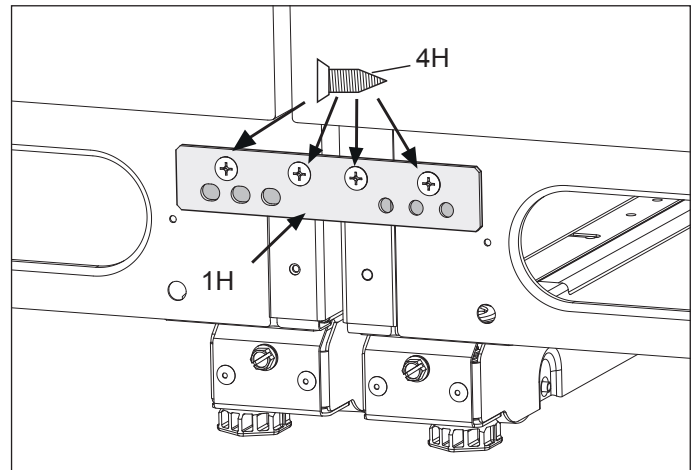

Figure 8
- d. Tie units together with common mounting bracket at the bottom front using #3 Phillips screwdriver. (See Figure 8).